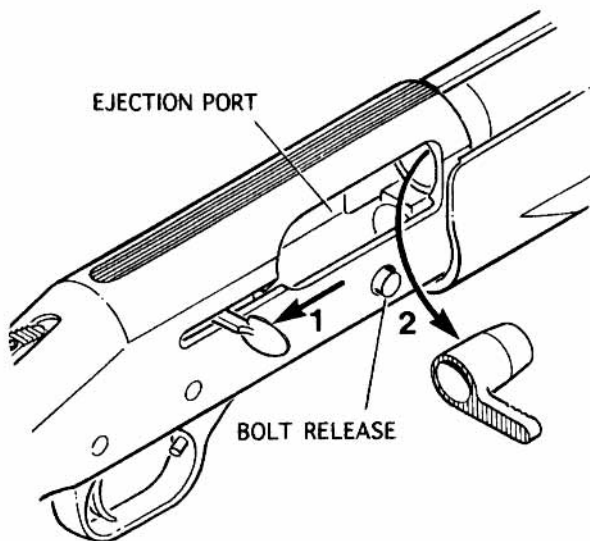

Figure 4
1. With the safety button fully rearward in the "ON" position and the shotgun pointed in a safe direction, hold the shotgun in your left hand by the forearm, and grasp the operating handle with your right hand (Figure 4).
Keep fingers clear of operating handle and ejection port when closing action. (Figure 4)
With safety button fully rearward in the "ON" (SAFE) position, and the shotgun pointed in a safe direction, press bolt release until action releases (Figure 4).
Open the action by pulling the operating handle completely rearward until it locks in the open position. (See "**TO LOCK ACTION OPEN**", Figure 4)
Keep fingers clear of operating handle and ejection port when closing action (Figure 4).
3. With safety button fully rearward in the "ON" (SAFE) position, and the muzzle pointed in a safe direction, press bolt release until action releases (Figure 4).
3. While holding the elevator down with your thumb, press the bolt release (Figure 4). This will release one shell from the magazine tube under spring pressure.